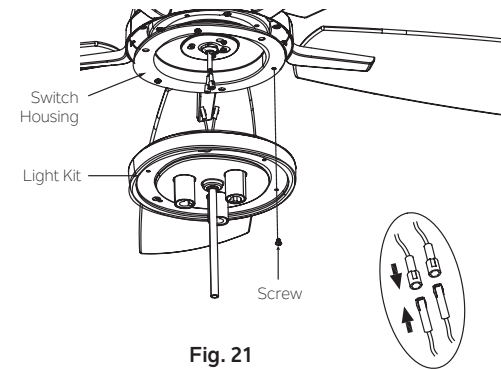

Fig. 21
**Step 1.** Hold the light kit close to the switch housing and connect the WHITE wires from the light kit and fan by pushing the connectors together. Follow the same procedure with the BLACK wires. (Fig. 21)
**Step 2.** Tuck the connections neatly into the light kit. Remove one of the three screws pre-installed on the switch housing and keep for later use. Loosen the other 2 screws (do not remove). Place the two slot holes on the light kit over the 2 screws previously loosened from the switch housing. Rotate the light kit until it locks in place at the narrow end of the key holes. Secure by tightening the 2 screws previously loosened and the one previously removed. (Fig. 21)